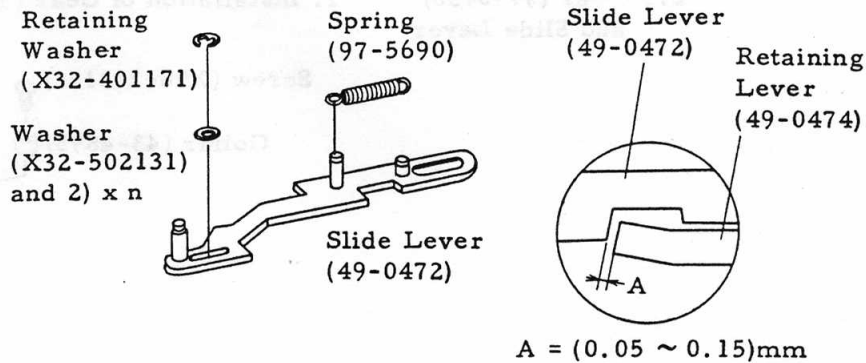

Fig. 9
- 1) Install the parts as shown in Fig. 9.